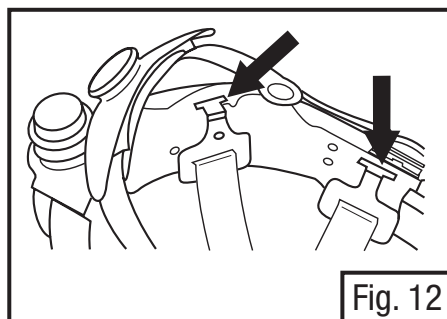

Fig. 12
- With the headgear upside down, release the head suspension from the headgear shell by pushing upwards on the plastic hangers of the web straps. The hangers are shown in Fig. 12.